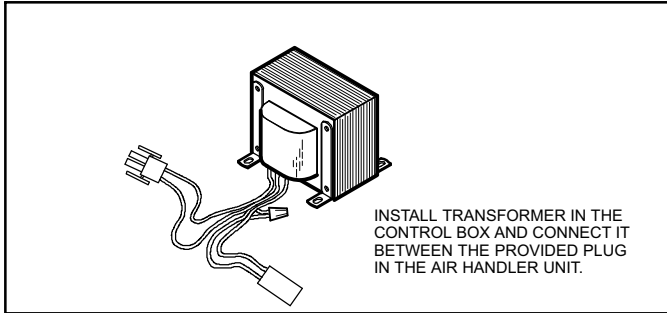

Figure 10. Installing Transformer (575V only)
**NOTE** - 575V, 3-Phase, 60Hz heaters are shipped with a line-voltage-to-460V transformer. This transformer provides 460V power to the air handler motor only. See figure 10.